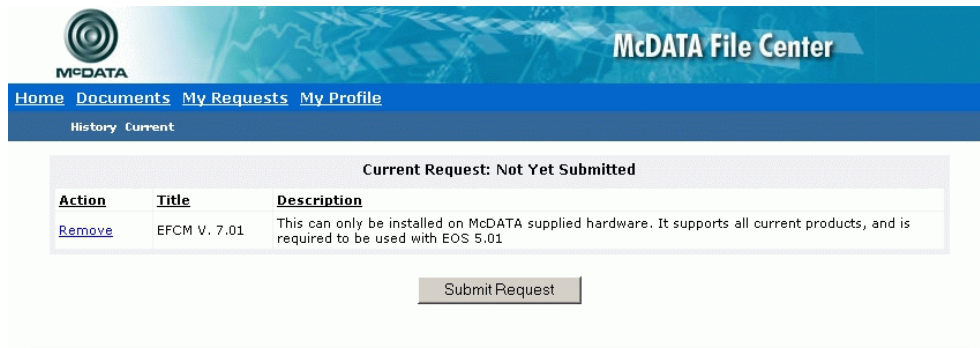

Figure 4-75 McDATA File Center (Current Request Page)
- f. Authorization to download a software version requires approval from the McDATA Solution Center. In the *Action* column adjacent to the desired software version, click *Add to Request*. The *Current Request* page displays (Figure 4-75).